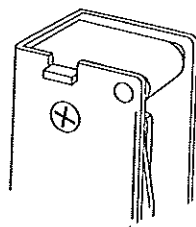
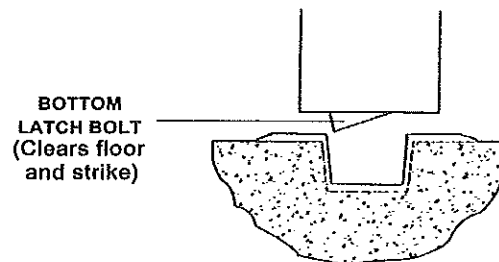

Figure 7-1
Figure 7-2
- 1. Depress push bar, top latch bolt should be retracted as shown in Figure 7-1, and bottom latch bolt clears floor and bottom strike as shown in Figure 7-2.